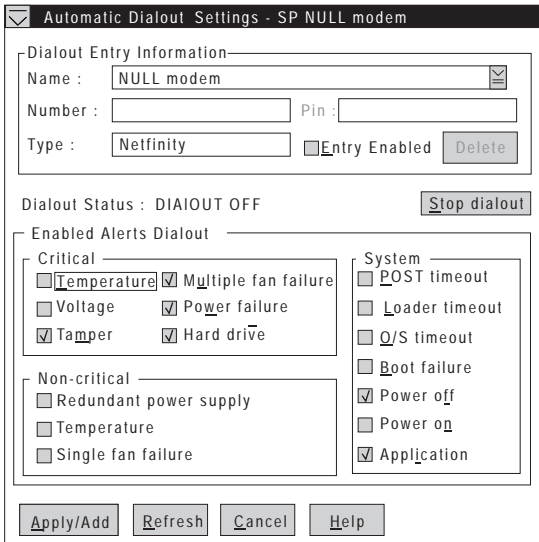

Figure 4. The Automatic Dialout Settings window
Dial-in delay (minutes)	The Dial-in delay (minutes) field shows the number of minutes that must pass after an incorrect User ID or Password has been used in five successive dial-in attempts before valid dial-in access will be permitted. After the fifth successive login failure, dial-in access is disabled for the number of minutes that you specify, the system management subsystem adds an entry in the Event Log noting that dial-in access was suspended due to five successive login failures, and the system management subsystem attempts to forward an alert if the Tamper Enabled Alerts Dialout check box has been checked (see Figure 4 on page 60).
**Automatic Dialout Settings:** Use the Automatic Dialout Settings window (shown in Figure 4 on page 60) to configure the system management subsystem's automatic dialout functions. If you configure a Dialout Entry, the system management subsystem will attempt to forward an alert to a remote Netfinity system, a numeric pager, or an alphanumeric pager when any of the events selected from the **Enabled Alerts Dialout** group occur. This alert will contain information about the nature of the event that occurred, the time and date at which the event occurred, and the name of the system that generated the alert.